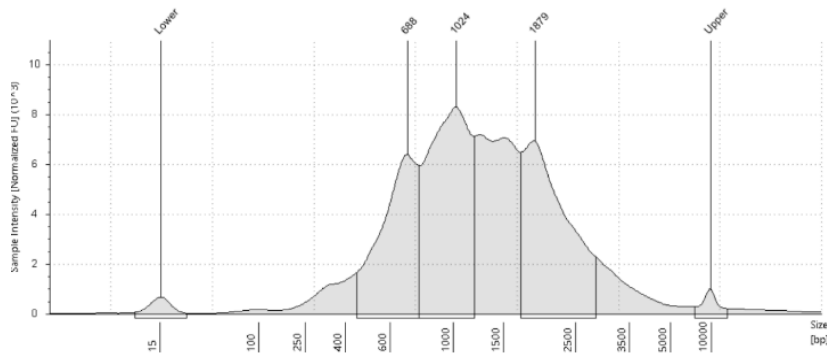

Figure 10. Representative cDNA traces for a 15,000 cell input human/mouse cell mixture (HEK 293T/NIH 3T3) using a **high sensitivity D5000 ScreenTape**.
2. Load an appropriate volume of the purified library on the fragment analyzer. Recommended loading concentration is 1-10 ng/uL on TapeStation and 1-2 ng/uL on Bioanalyzer (Figure 10). Loading less than 1 ng/uL may not give accurate results.